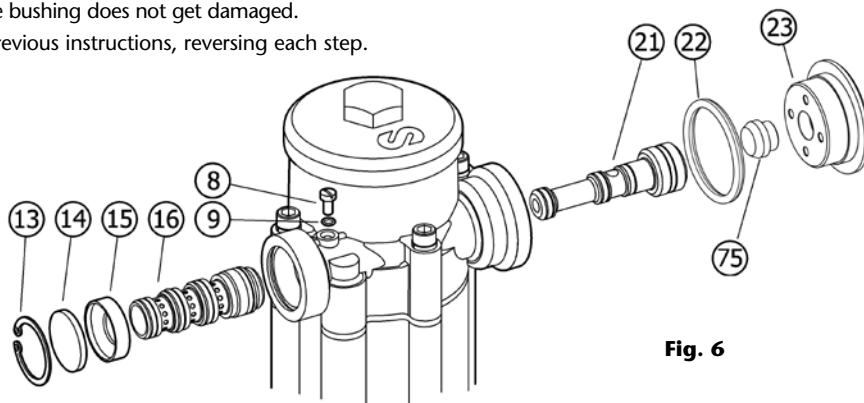

Fig. 6
1. Unthread the plug (23) and remove the circlip (13), the muffler (14) and the muffler support (15).
2. Remove the distributor axle (21) (fig. 6).
3. Unthread the screw (8) completely and remove the distributor bushing (16) carefully.
4. Lubricate the new distributor bushing with its O-rings, insert it from the side of the plug (23) and hold something to stop it at the side of the muffler (14). Be very careful so that the bushing does not get damaged.